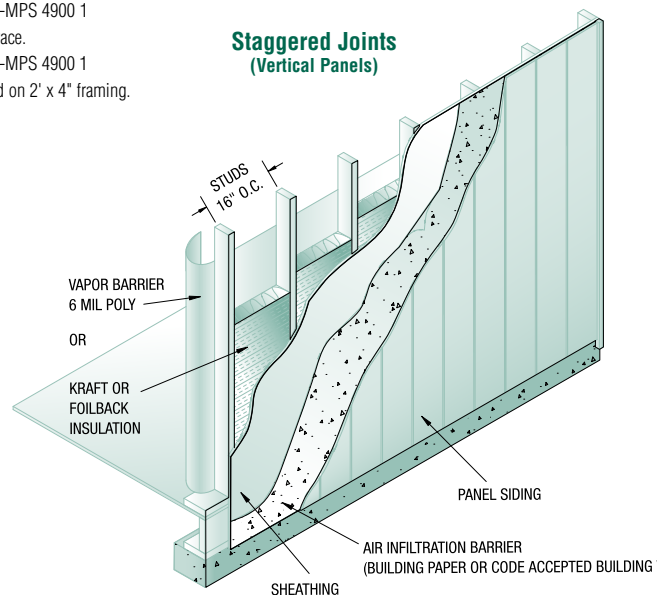

FIG. 5
- In moderate climates of California, Arizona and Nevada, sheathing is strongly recommended. Lack of sheathing may lead to unevenness of the siding from the framed wall. Apply an air infiltration barrier beneath the siding on the framing for all lap siding in these areas. See Fig 5.
- A continuous vapor barrier rated 1 perm or less is required across the interior side of all walls to be sided. Examples include 6 mil polyethylene and kraft-backed or foil-backed insulation stapled tightly to the face or sides of the studs. See Fig 5.